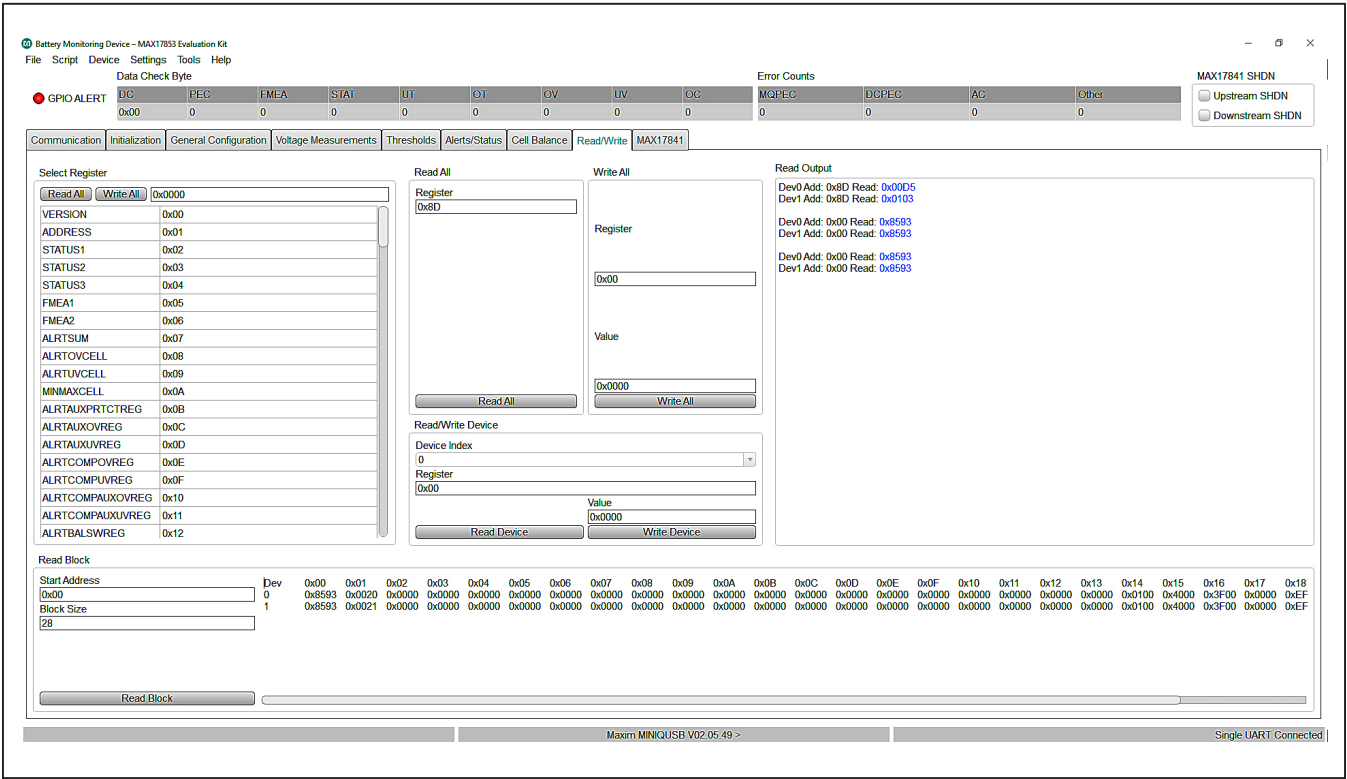

Figure 22. Read/Write Tab
The **Read/Write** tab (Figure 22) provides direct access to the read and write registers of the MAX17852. In the **Read/Write** tab, the GUI offers several read/write options to the user. The **Select Register** group box allows the user to read register contents by highlighting the desired register and clicking the **Read All** button. For example, if the user wants to read the unique ID assigned to each device, scroll down the list and highlight the ID1 (0x8C) register and click the **Read All** button, then highlight the ID2 (0x8D) register and click the **Read All** button. The contents of the registers are then displayed in the **Read Output** group box.
- 6) The EV kit contains a 10kΩ pullup resistor on each of the GP/AUXn pins. To pull up each of the GP/AUXn pins, select the **Read/Write** tab (Figure 22). Using the **Read All** group box, read register 0x62. Set **THRM-MODE** bit 9 and bit 10 (e.g., if register 0x62 is 0x0000, use the **Write All** box and send 0x0600). Setting the **THRM-MODE** bit activates the **THRM** pin on the device (pin no. 29). The EV kit terminates **THRM** to the 10kΩ pullup resistors.